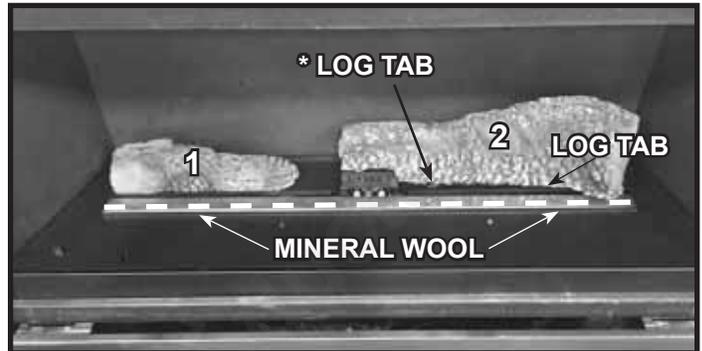

Figure 5. Place Log #2 - Mineral Wool Placement
- COSMO42-IFT: Install Log #2 by placing the cutout on the left side of the log over pilot shield and pull log forward until it contacts the two log tabs. See Figure 5.
- Install mineral wool on burner. Mineral wool can be placed the entire length of the burner, but it must only be placed between the front row of ports and the space in front of the burner. The mineral wool should not cover any ports or fall so that it covers the gap behind of the burner. See Figure 5.